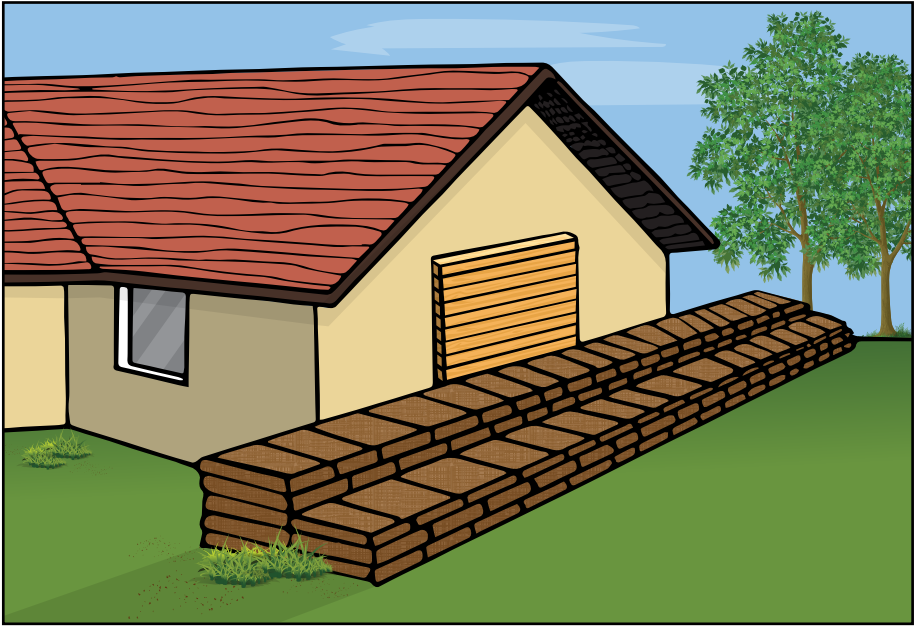

Fig. 5 - Sandbag Stacking Against Buildings
*(Fig. 5, page 15).*
PLACE	sandbags against the house if debris deflector required is greater than 3 feet (Fig. 5, page 15).